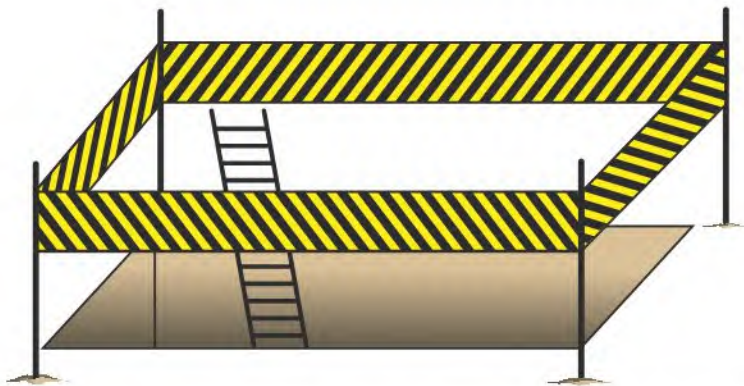

Figure S-2 Place a barricade around a trench and use a ladder to enter and exit the trench.
3. Place barricades around trenches (Figure S-2).